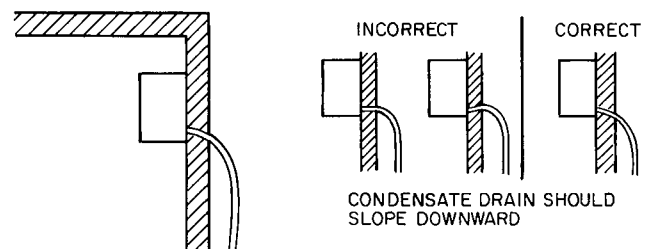

Fig. 12 – Drainage Systems
2. To ensure regular flow of condensate water, the drain pipe should be pitched toward an open drain or sump at a downward slope of at least 1/4-in. per foot. Refer to Fig. 12.